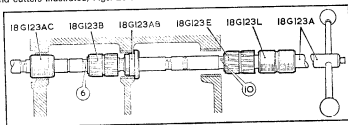

Fig.26 - Reamers for front and rear bearing liner
7. Ream the front and rear bearing liners, using the reamer pilots and cutters illustrated, Figs. 26 and 27.